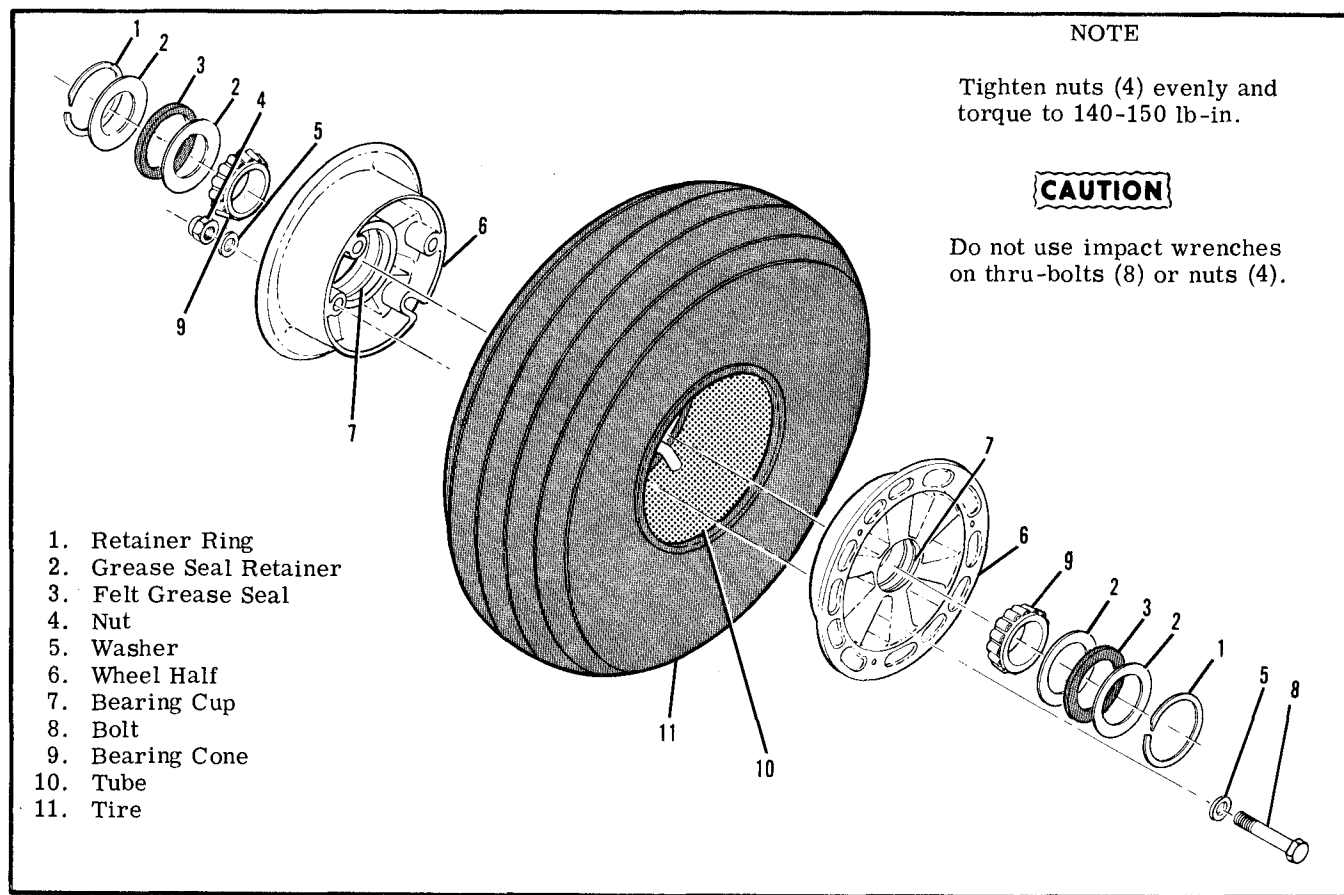

Figure 5-8. Nose Wheel Assembly
**5-32. NOSE WHEEL DISASSEMBLY.** (Refer to figure 5-8.)
- b. Inspect wheel halves (6) for cracks or damage.
- c. Inspect bearing cones (9), cups (7), retaining rings (1) and seals (2) and (3), for wear or damage.
d. Inspect thru-bolts (8) and nuts (4) for cracks in threads or cracks in radius
e. Replace cracked or damaged wheel half (6).
f. Replace damaged retaining rings (1) and seals (2) and (3).
g. Replace any worn or cracked thru bolts (8) or nuts (4).
h. Replace worn or damaged bearing cups (7) or cones (9).
**5-34. NOSE WHEEL REASSEMBLY.** (Refer to figure 5-8.)
a. Assemble bearing cone (9), grease seal retainer (2), felt grease seal (3), grease seal retainer (2) and retaining ring (1) into both wheel halves (6).
c. Place wheel half (6) into tire and tube (side opposite valve stem), aligning base of valve stem in valve slot. With washer (5) under head of thru-bolt (8), insert bolt through wheel half (6).